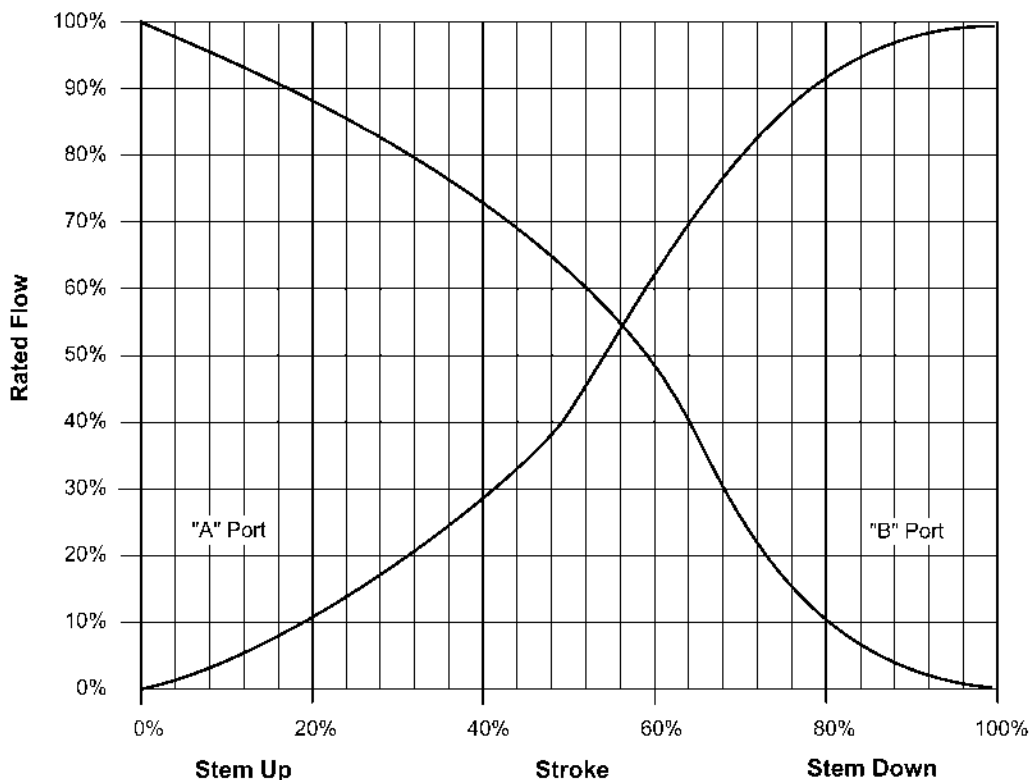

Figure-2 Typical Flow Characteristics.
**3-Way Valves:** 3-way mixing valves are designed so that the flow from either of the inlet ports to the outlet is approximately linear, which means the total flow from the outlet is almost constant over the stroke of the valve stem. See Figure-2 for typical flow characteristics of the VB-731X and VB-931X series valve bodies.